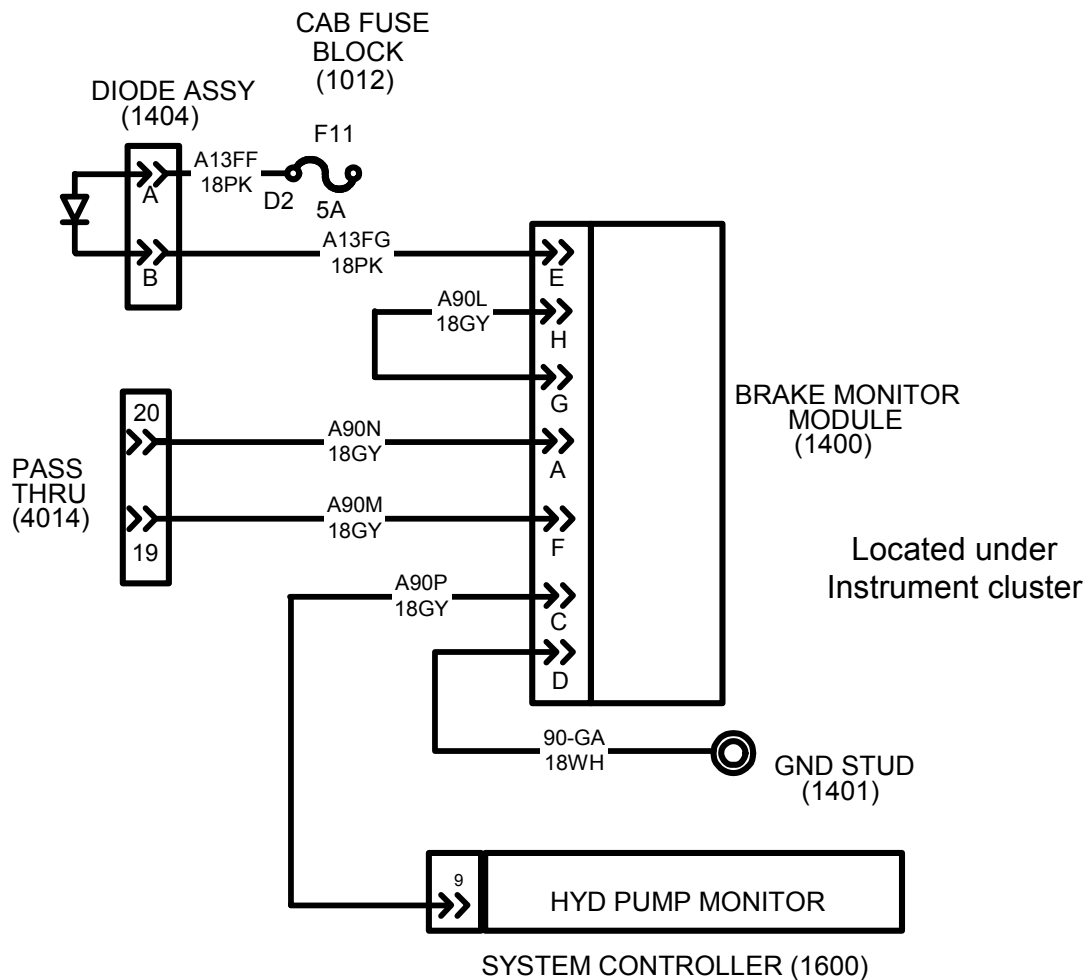

Figure 2: Installation Schematic For The Hydraulic Brake Monitor Module
11. Disconnect the pass through connector at the cowl. Connect the A90N gray wire to cavity 20 on the pass through connector and connect the A90M gray wire to cavity 19 on the pass through connector (Reference Figure 2).
13. Remove one of the nuts from a ground stud in the cab next to the pass through connector, install the ring terminal of the 90-GA white wire over the ground stud and tighten the nut (Reference Figure 2).
14. Plug the connector of the A13FF pink wire into the F11 fuse position, install the new 5 Amp fuse into the F11 fuse position, plug the A13FG pink wire connector into cavity E of the brake monitor module plug attached to the gray & white wire harness installed above, push this plug into the brake monitor module and lay the pink harness over the main harness (Reference Figure 2).